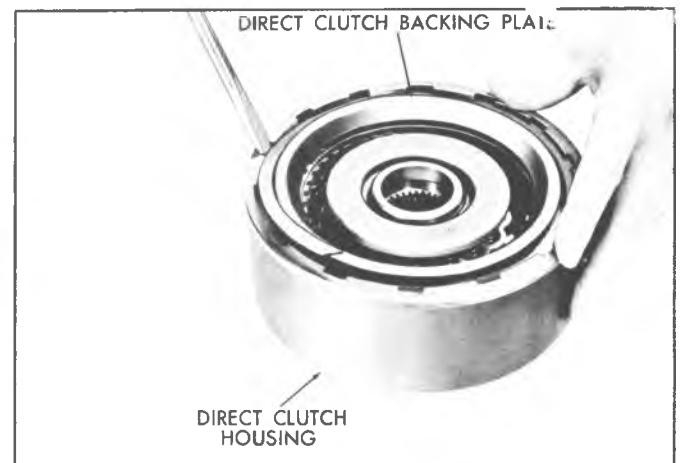

Fig. 91T--Installing Direct Clutch Housing to Backing Plate Snap Ring
9. Install backing plate retaining snap ring (fig. 91T).